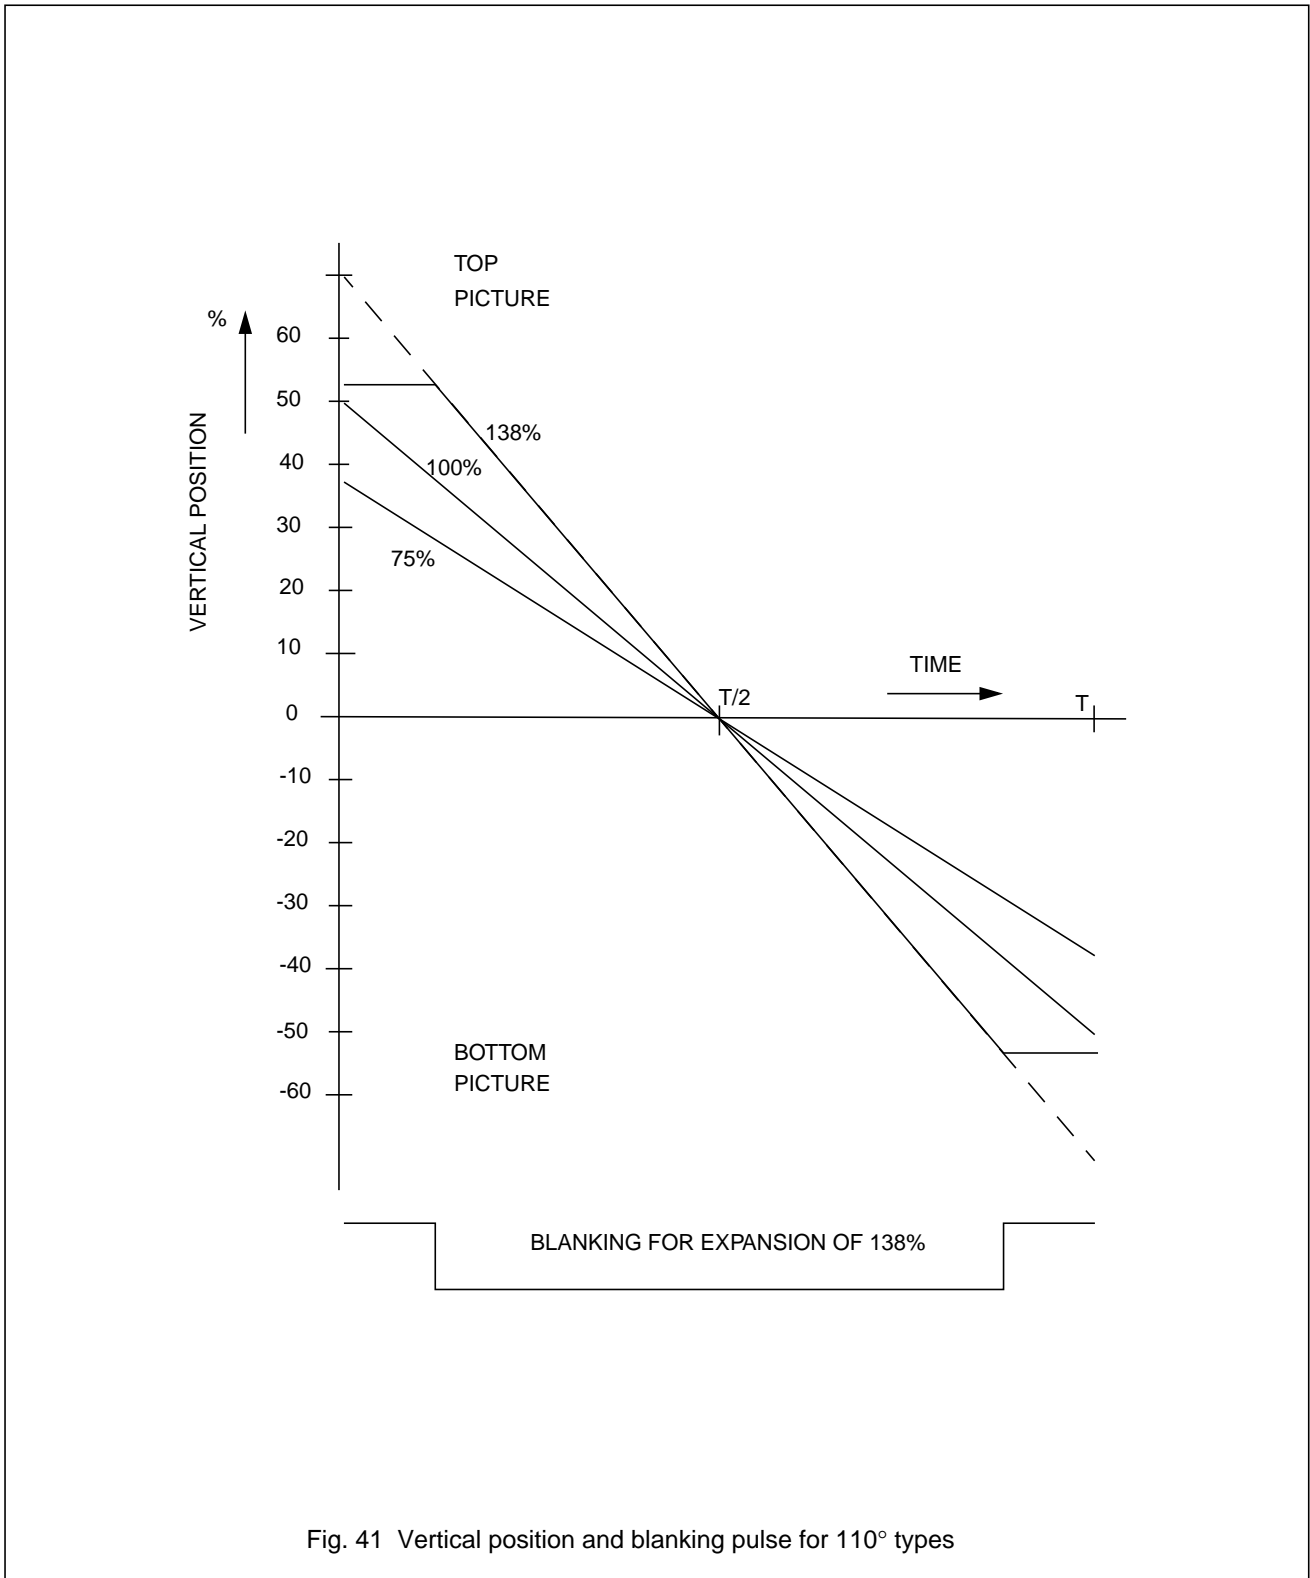

Fig. 41 Vertical position and blanking pulse for 110° types
47. The ICs have a zoom adjustment possibility for the horizontal and vertical deflection. For this reason an extra DAC has been added in the vertical amplitude control which controls the vertical scan amplitude between 0.75 and 1.38 of the nominal scan. At an amplitude of 1.06 of the nominal scan the output current is limited and the blanking of the RGB outputs is activated. This is illustrated in Fig. 41.